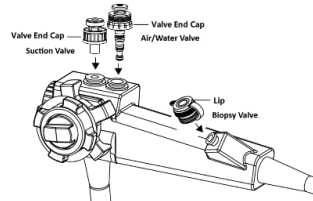

Figure 1
4. Insert the suction valve into the port of the suction channel of a Fujifilm® 700 Series GI endoscope (see Figure 1 below).
9. Insert the air/water valve into the port of the air/water channel of a Fujifilm® 700 Series GI endoscope (see Figure 1 below).
13. Securely place the biopsy valve onto the port of the biopsy channel of a Fujifilm® 700 Series GI endoscope (See Figure 1).